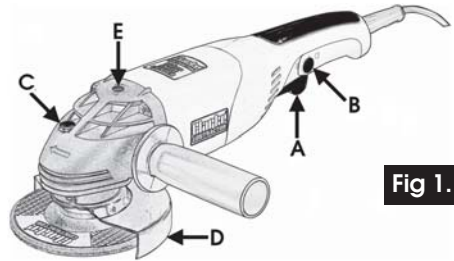

Fig 1.
FEATURES (Ref. Fig 1)
The ON/OFF trigger switch (A) in Fig 1, is provided with a safety lock button (B), to prevent accidental starting. To operate, fully depress the trigger switch and depressing the safety lock button (B). To stop, release the lock button, and the trigger switch. The grinder will slow down and stop.